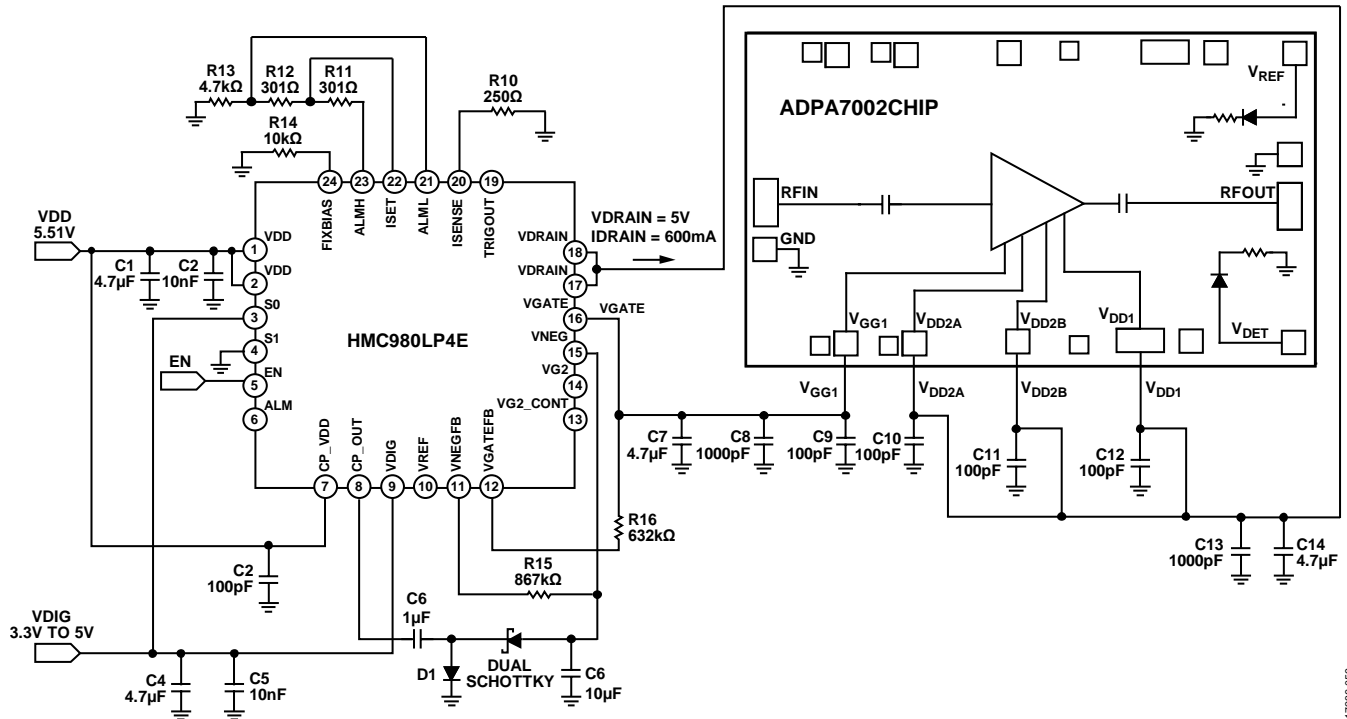
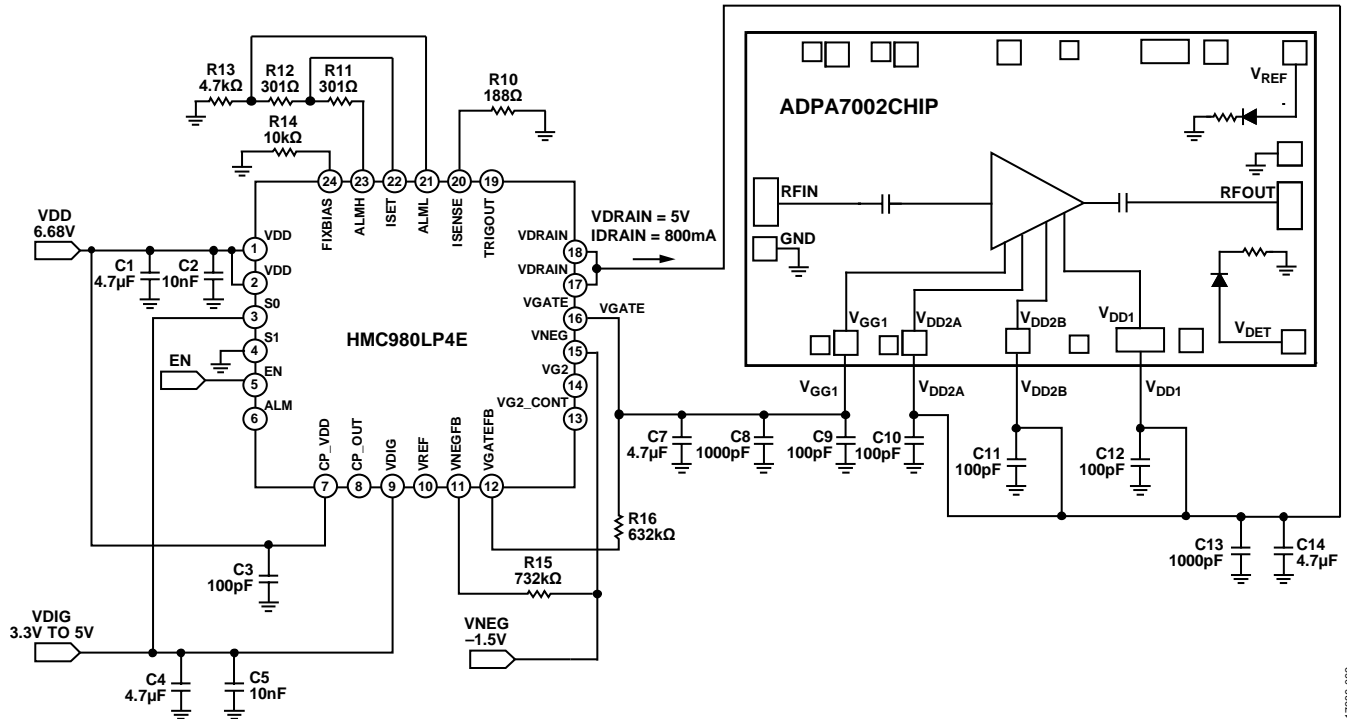

Figure 59. Application Circuit using the HMC980LP4E with the ADPA7002CHIP
Figure 60. Application Circuit using the HMC980LP4E with the ADPA7002CHIP as an External Negative Voltage Source
Figure 59 shows a schematic of an application circuit of the HMC980LP4E used with the ADPA7002CHIP. Refer to Figure 60 for an application circuit diagram if using external negative supply for the VNEG pin.
When using the ADPA7002CHIP with the HMC980LP4E, the minimum voltages for VNEG and VGATE need to be limited to  $-1.5$  V to keep them within the absolute maximum ratings (AMR) limit for the ADPA7002CHIP  $V_{GGx}$  pad. This is accomplished by setting the R15 resistor and the R16 resistor to the values shown in Figure 59 and Figure 60. Refer to the AN-1363 application note for more information and calculations for R15 and R16.
1. Set VDIG, the voltage supply input (Pin 9) for the HMC980LP4E digital circuit (see Figure 60) to 3.3 V.
2. Set S0, the digital control pin (Pin 3) that sets the internal field effect transistor (FET) and the internal HMC980LP4E resistor (RDS) resistance (see Figure 60) to 3.3 V.